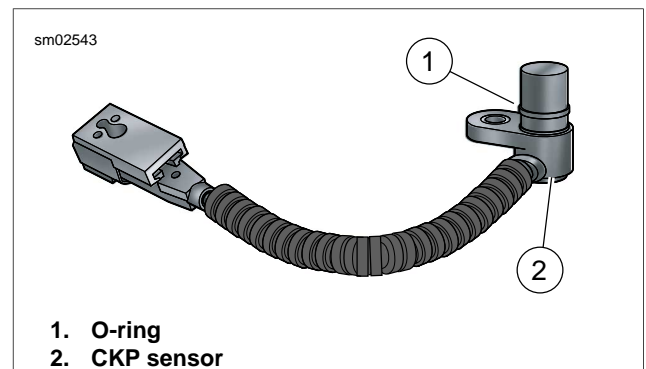

Figure 8-36. CKP Sensor
1. See Figure 8-36. Lubricate CKP sensor O-ring (1) with clean engine oil.